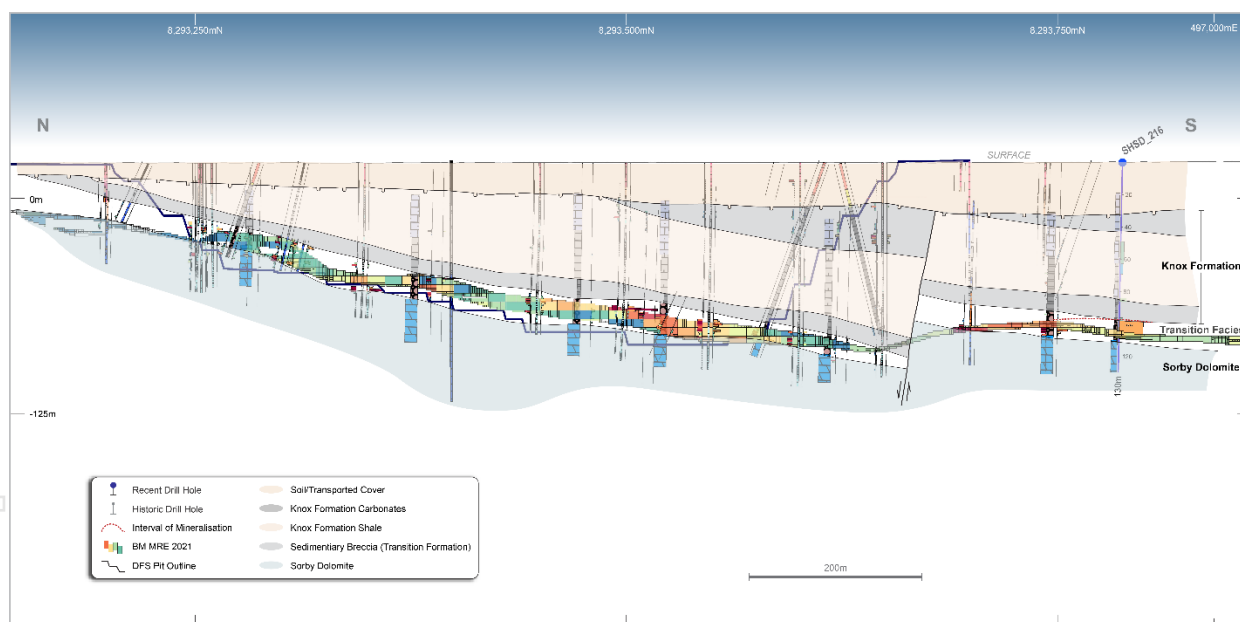

Figure 6: North-South s-section of Norton-Deposit with indication of completed drill holes and geological interpretation (see Figure 2 for location).
A traverse of three (3) holes was completed at the **Norton-Deposit**, about 100m north of the pit perimeter (Figure 2). The drill holes were drilled to test the interpreted continuity of high-grade silver and lead mineralisation. Drill hole SHSD_216 delivered an exceptionally high-grade interval of galena mineralisation (Figure 5, 6 & 7) at the target depth, with width and grade exceeding the shape of mineralisation interpreted and which is open to the north (Figure 6 & 7 and Table 1).
Table -1: Visual sulphide mineral estimate of core shown in Figure 6.